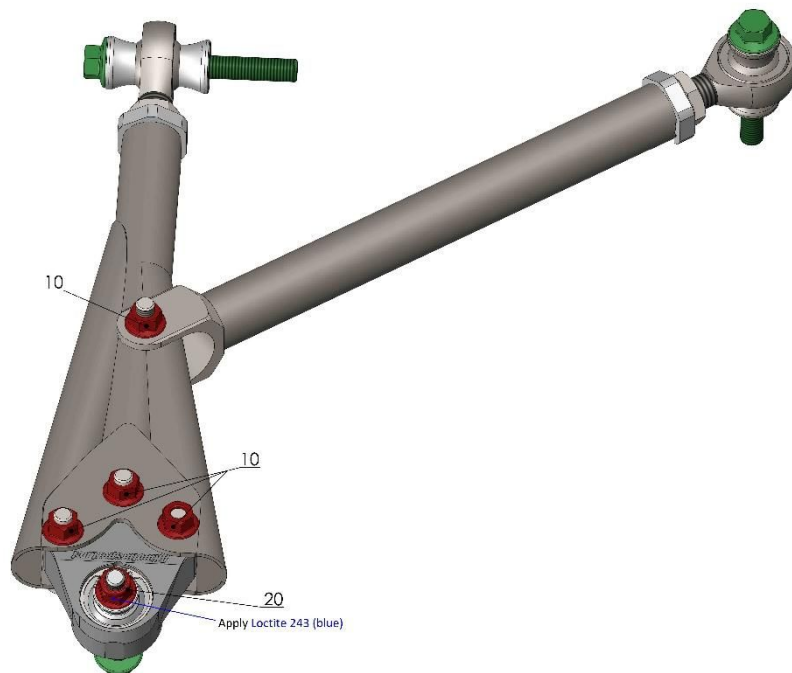

Figure 2 Front tubular wishbone assembly
- d. Install pivot pin inside knuckle and tighten nut (Number 20 on Figure 2). **Secure thread with Loctite 243 (Blue). Tightening torque 60 Nm.**
- g. Tighten nuts (Number 10 on Figure 2). **Tightening torque 70 Nm.**